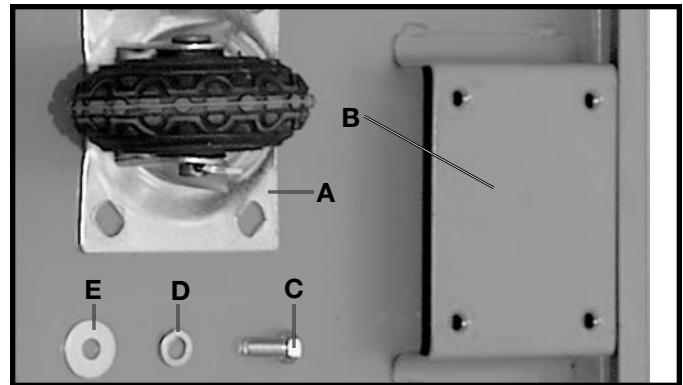
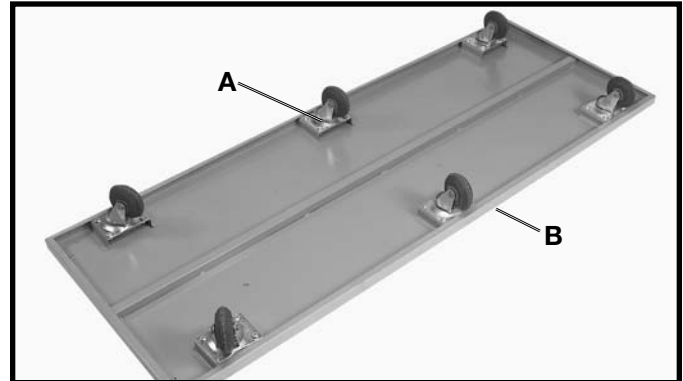

Fig. 5
Fig. 6
Turn base over. Align four holes in caster (A) Fig. 5, with four holes at one corner of base (B) and assemble caster to base. Place a 5/16" lockwasher (D), then a 5/16" flat washer (E) on a 5/16-18x5/8" hex head screw (C), insert the hex head screw through the hole in the wheel caster and thread the screw into the base. Repeat this process for the three remaining holes. Assemble the remaining five casters (A) Fig. 6, to the underside of the base (B) in the same manner.